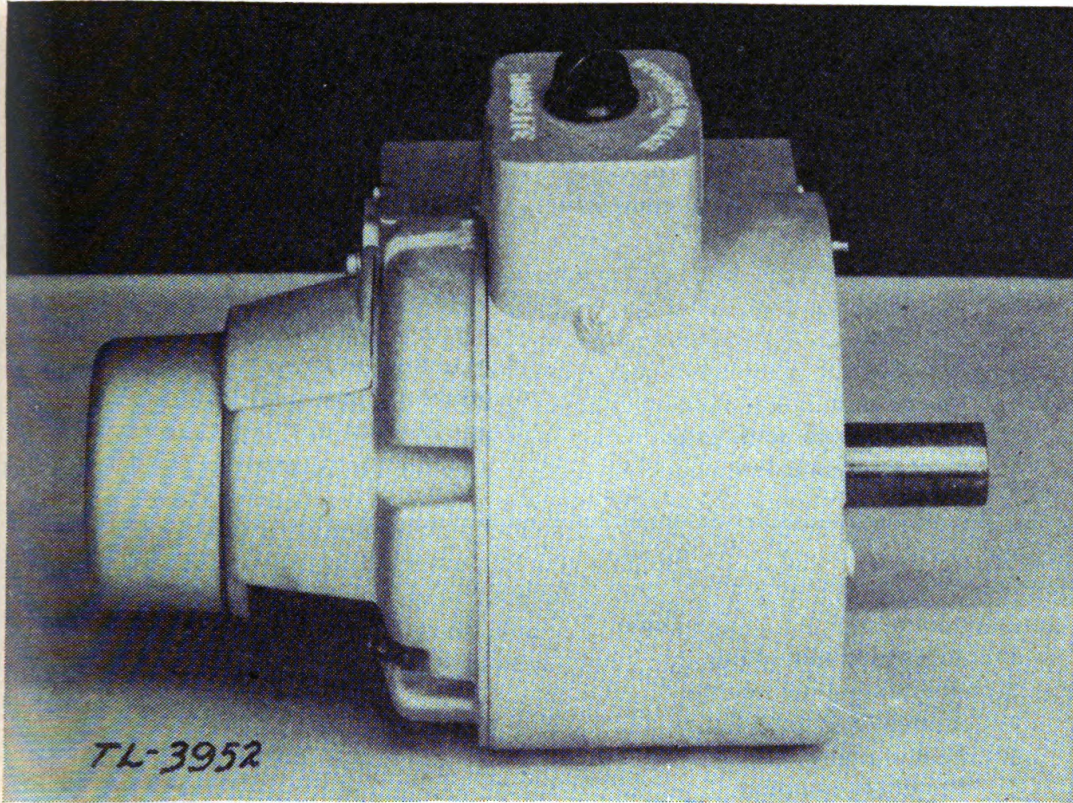

FIGURE 3.—Generator assembly.
*b. Generator.*—The generator is a Homelite Corporation model HTRA, self-excited, 110-volt, 60-cycle, single-phase, a-c generator of 2,500 watts rating and incorporates a filter box assembly attached thereto. (See fig. 3.)